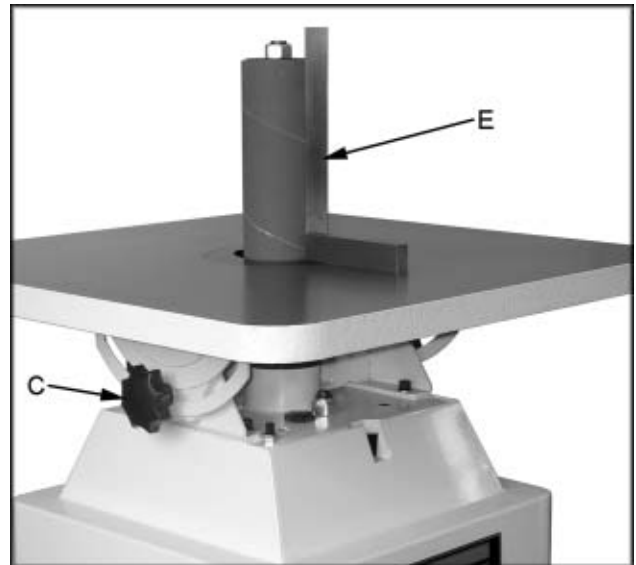
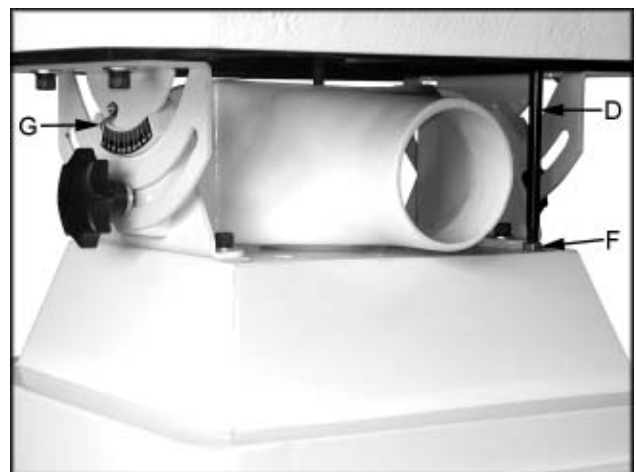

Fig. 5
Fig. 6
1. Loosen the lock knobs (C, Fig. 5) on trunnions and position the table so that it rests against the 90° stop (D, Fig. 6). Tighten lock knobs.
2. Place a square (E, Fig. 5) on the working side of the table, and make sure the sanding drum is perpendicular to the table.
3. If an adjustment needs to be made loosen the hex nut (F, Fig. 6).
7. Adjust pointer (G, Fig. 6) so that it indicates the "0" position on the scale.